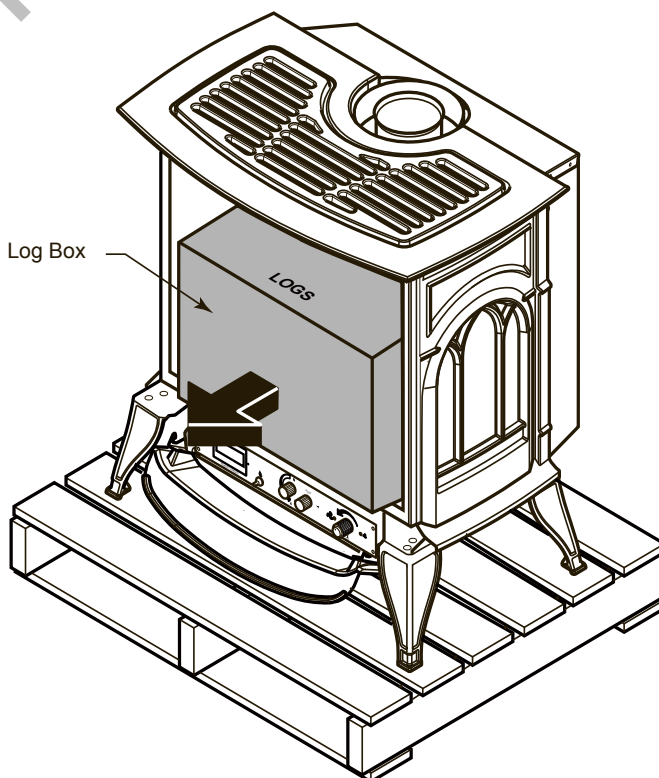

Figure 8 -
3. Lift up on ash lip and pivot down to open control door. *Figure 8*
4. Lift up on front. Pivot bottom of front out. Remove front. *Figure 8*